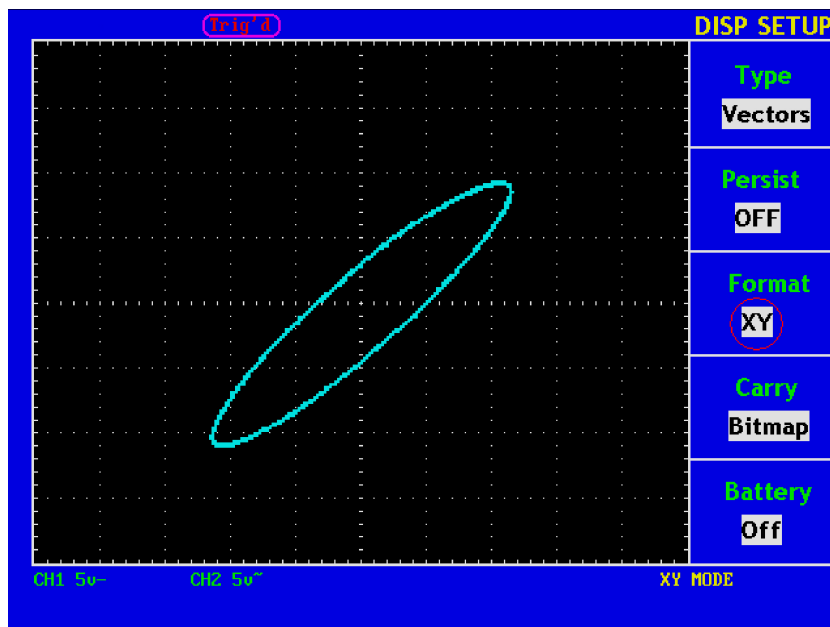

Fig. 56 XY Display Mode
2. Press the **F3** menu selection button and choose the form as XY. The display format is changed to be XY mode (see Fig.56).
Press the **SAVE/RCL** button, you can save and call out the waveforms in the instrument. The menu displayed in the screen is shown as Fig.56.